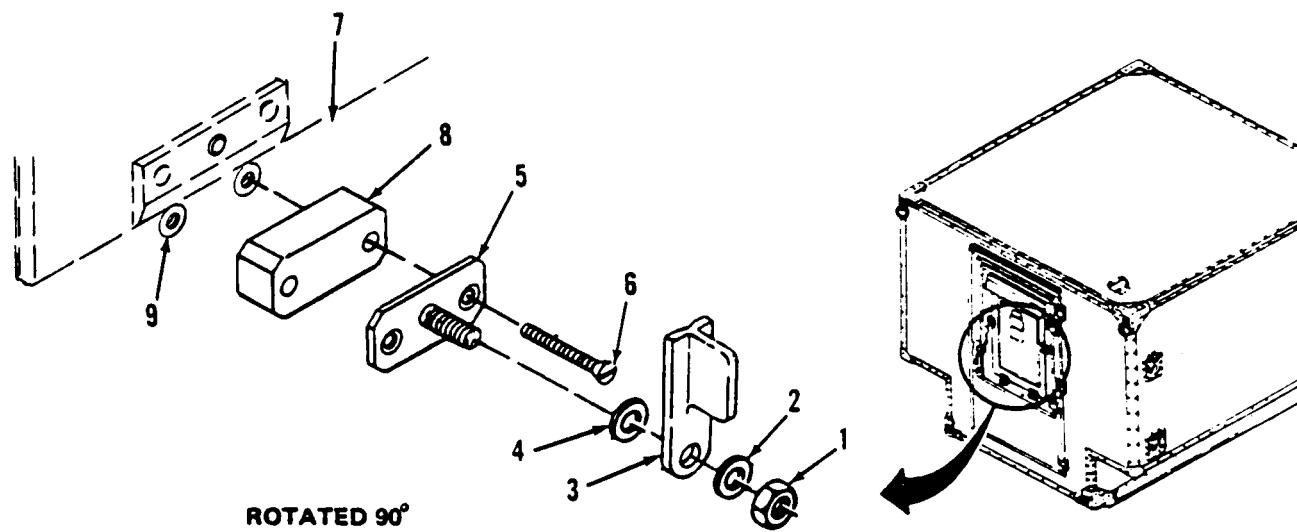

Figure 3-28. Louver Cover Assembly Latch Replacement.
**a. Inspect. (Figure 3-28)**
- (1) Inspect latch (3) for wear or damage.
- (2) Inspect stud plate assembly (5) for damage and secure mounting.
- (3) Check for loose or missing hardware.
**b. Replace. (Figure 3-28)**
- (1) Remove and retain a nut (1), flat washer (2), latch (3), and flat washer (4) from stud plate assembly (5).
- (2) Remove and retain two flat head screws (6) attaching stud plate assembly (5) to inner door panel (7) and remove the stud plate (5) and spacer (8).
- (3) Inspect condition of rivnuts (9) and replace if necessary (paragraph 3-9.b).
- (4) Position spacer (8) and stud plate assembly (5) in place, dip the two mounting screws (6) in sealer, and secure stud plate (5) and spacer (8) to inner door panel (7).
- (5) Slide flat washer (4), latch (3), and flat washer (2) onto stud and secure with nut (1).
- (6) Apply a continuous bead of sealer around spacer (8).